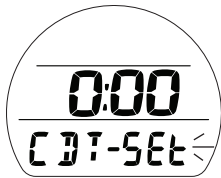

Fig. 90 - CDT STATUS
- A (< 2 sec) to step up through OFF, ON, SEt (Fig. 90).